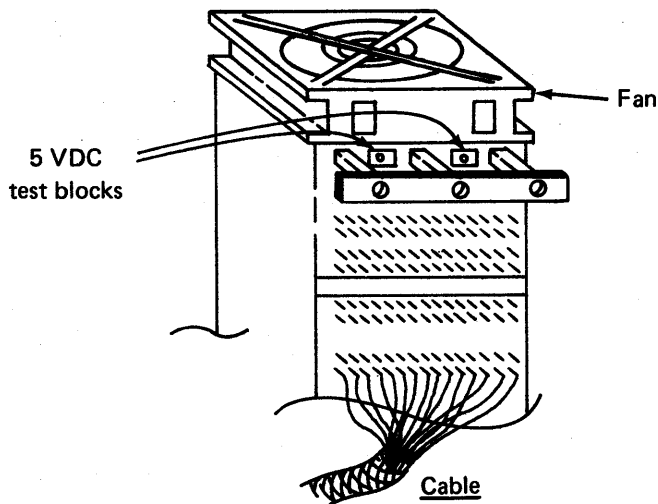

Figure 58. Rear of logic chassis in maintenance position
- _____ Step 41. Connect the digital volt/ohmmeter between ground and the +5V test blocks on the logic chassis backpanel. (See figure 58.)